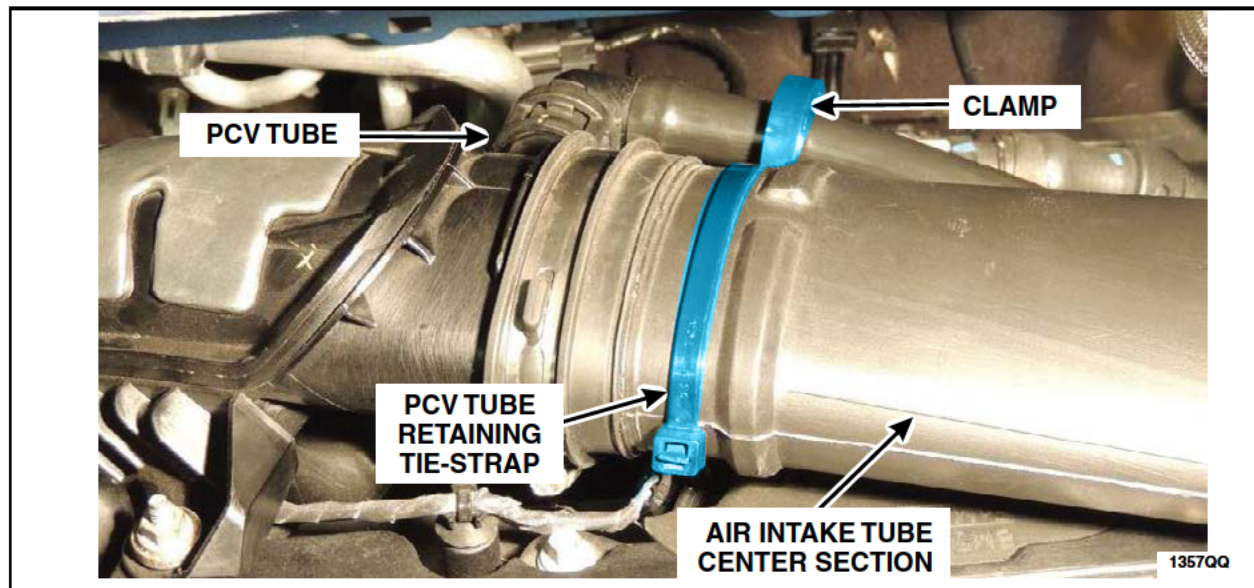

FIGURE L1
10. Install the PCV tube retainer / tie strap provided in the vehicle parts kit. See Figure L1.